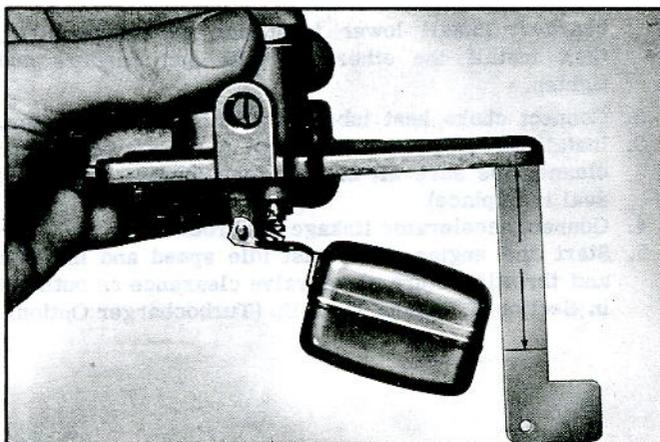

Fig. 32—Measuring Float Drop
- Measure the distance between cover gasket surface and seam of float at free end (fig. 32). This FLOAT DROP dimension should be 2-3/8" ± 1/16".